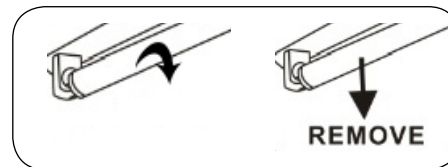

FIG. 1
3. Remove the existing fluorescent lamp. (Fig. 1)